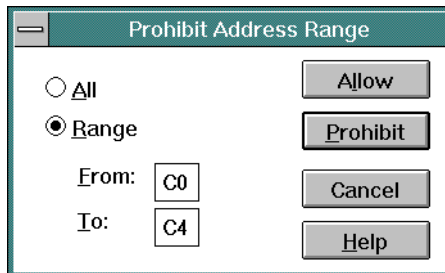

Figure 3-20. Block Address Range Dialog Box
- b. Click in the *From* box and enter the address of the first port on the port card. Then click in the *To* box and type in the address of the last port on the card. Figure 3-20 shows ports C0 through C4 blocked.